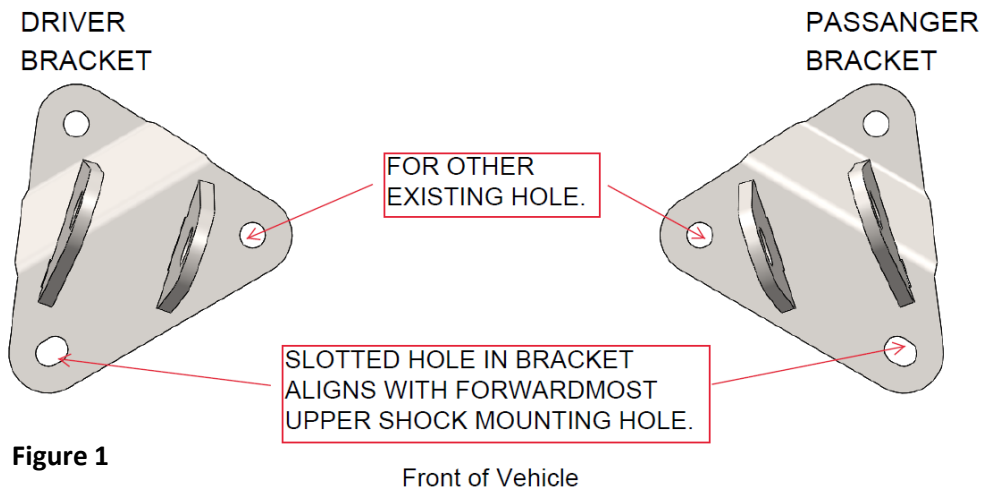

Figure 1
2. The upper mounting bracket bolts to the frame using the factory upper shock mounting holes with the 5/16" x 3/4" bolts and nuts provided. One additional 5/16" hole will need to be drilled for each bracket. See **Figure 1 & 2**.